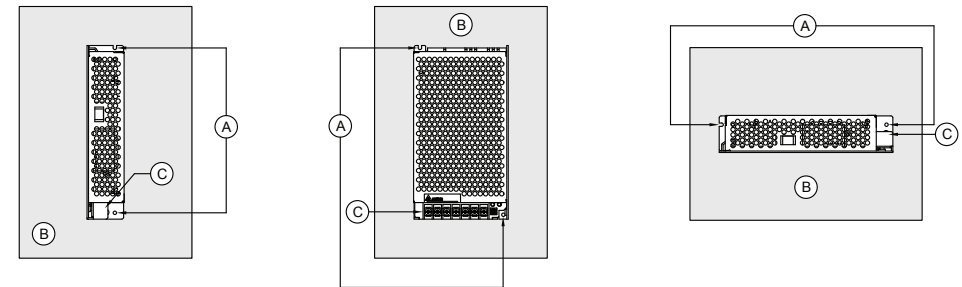

Figure 2 - Mounting
3. Installation of the Device (Fig. 2)